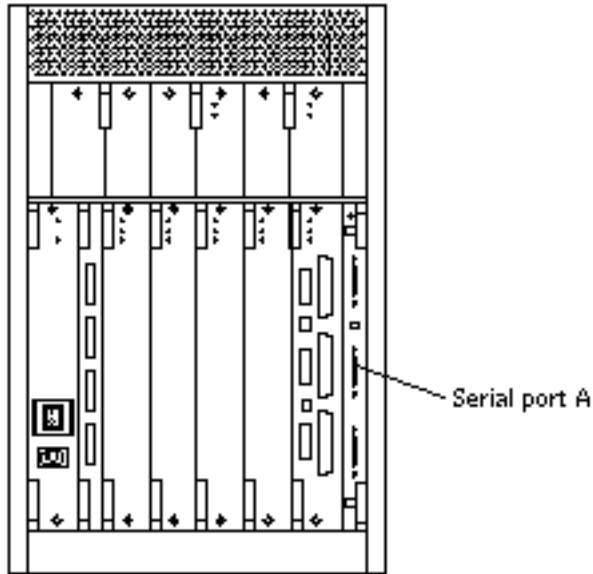

Figure 2-8 Clock+ Board
1. Connect the terminal cable into serial port A on the clock+ board. See Figure 2-8.